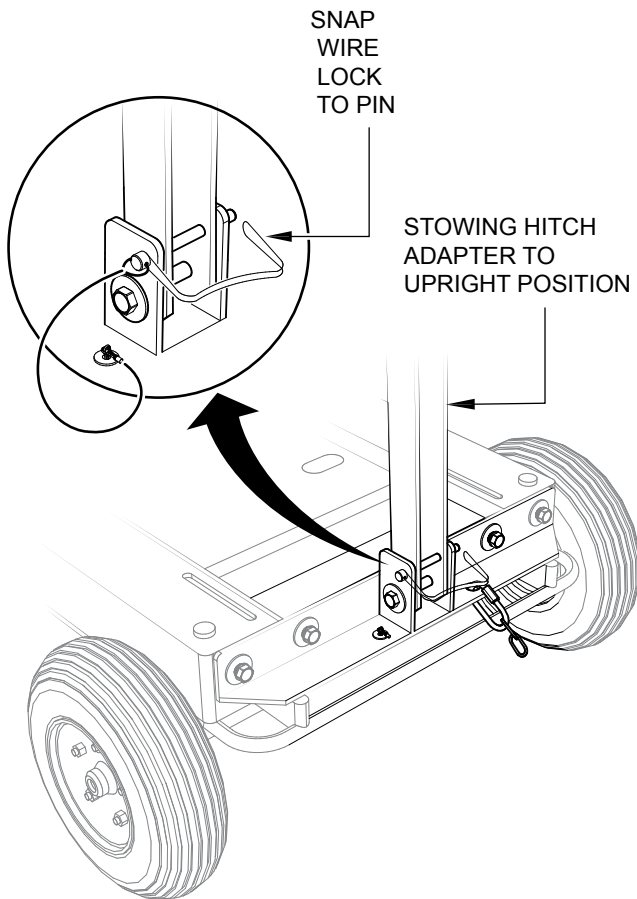

**Figure 4. Connection to the Towing Vehicle**
3. Attach the hitch adapter to the towing vehicle as shown in Figure 4. Be sure the coupler is all the way on the hitch ball and the locking mechanism is engaged.
4. Attach the safety chain (see Figure 4).